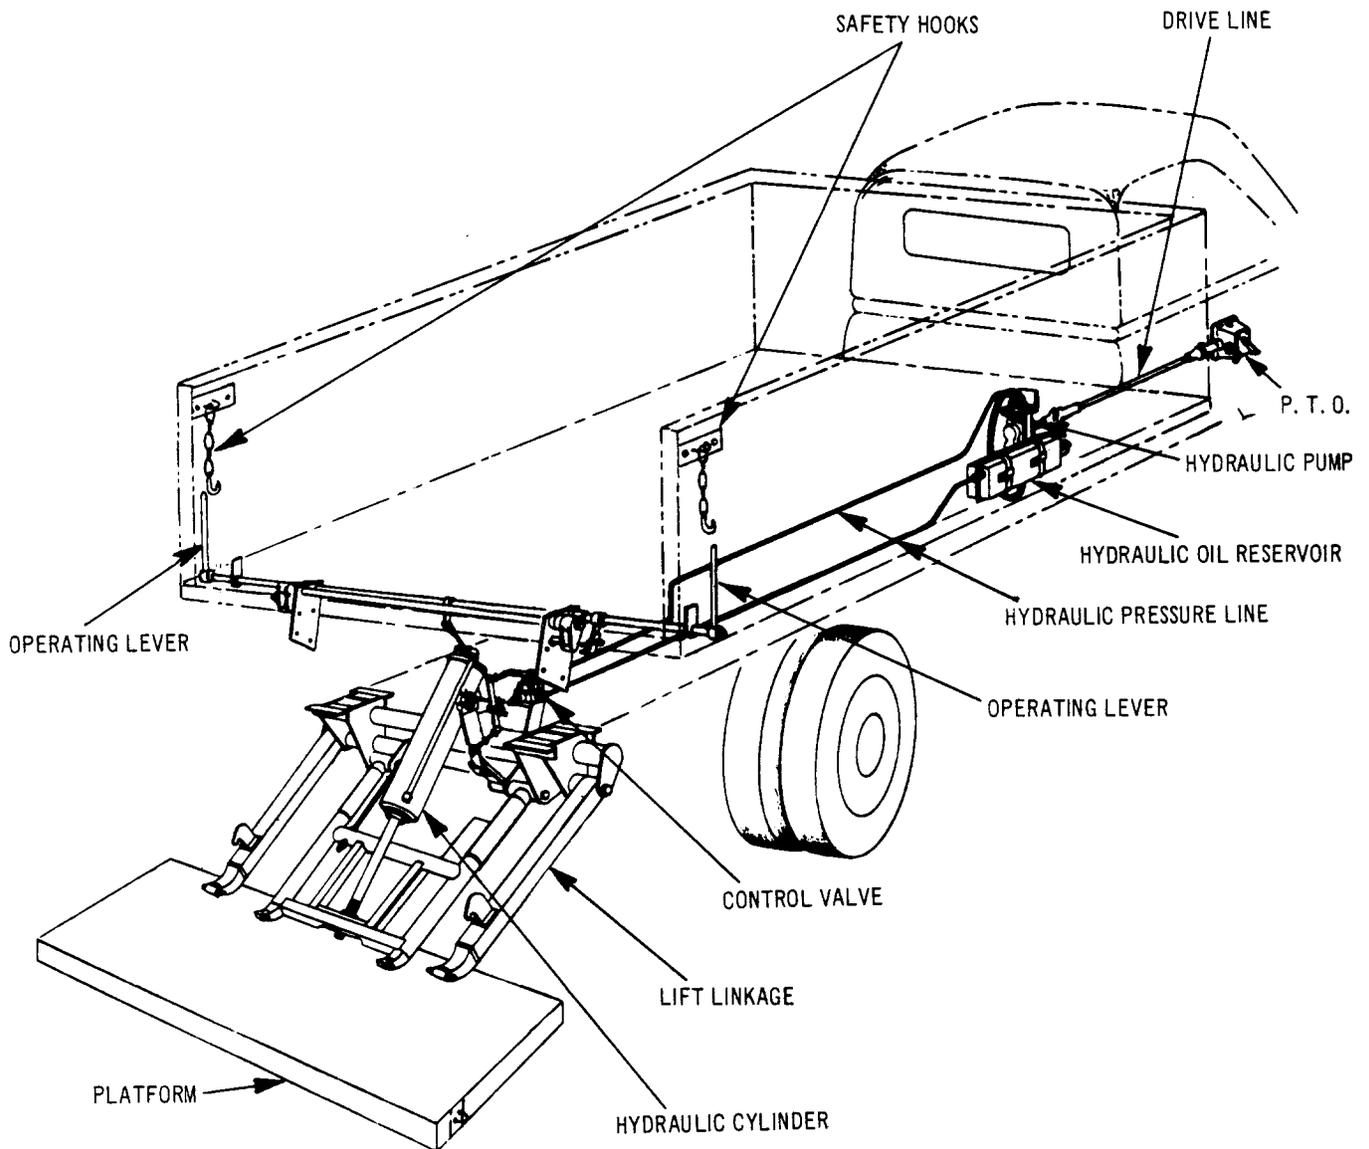

Fig. 1
1.04 Commercially available hydraulic lift gates differ in some design details. However, their basic features are similar and are covered in Part 2 and illustrated in Fig. 1.
2.05 Provide safety hooks or hasps for securing the closed gate to the sides of the truck or trailer body when the gate is not in use. See Fig. 1.